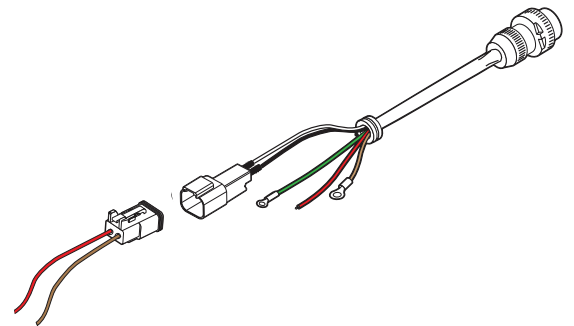

Figure 3: Mate Male and Female Sides of Connector
3. Mate shell side of connector to harness side of connector. See Figure 3.